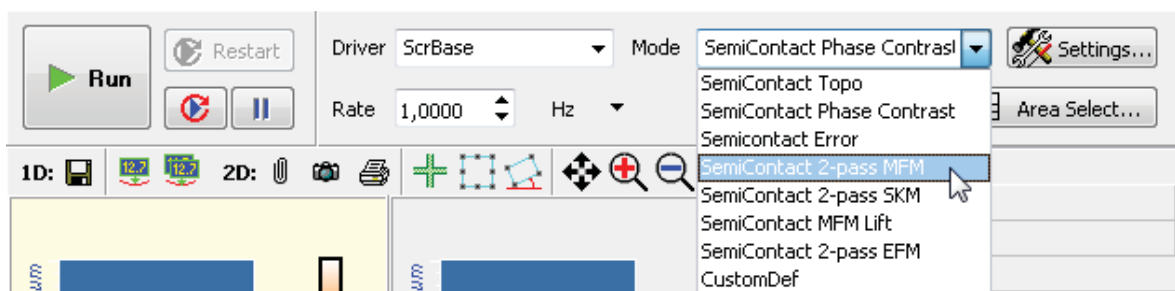

Fig. 9-3. Selecting the Magnetic Force Microscopy mode
After the completion of preliminary measurements of surface topography by the Semicontact Mode, switch the instrument for operating in the MFM mode by selecting **Semicontact 2-pass MFM** in the list (see Fig. 9-3) of the Control panel of the **ScanForm** window. The **Height** signal will be selected for detection on the first pass and the **Phase** signal – on the second pass.
1. Open the Additional Scanning Parameters panel by clicking the **Params** button in the **ScanForm** window (Fig. 9-3).